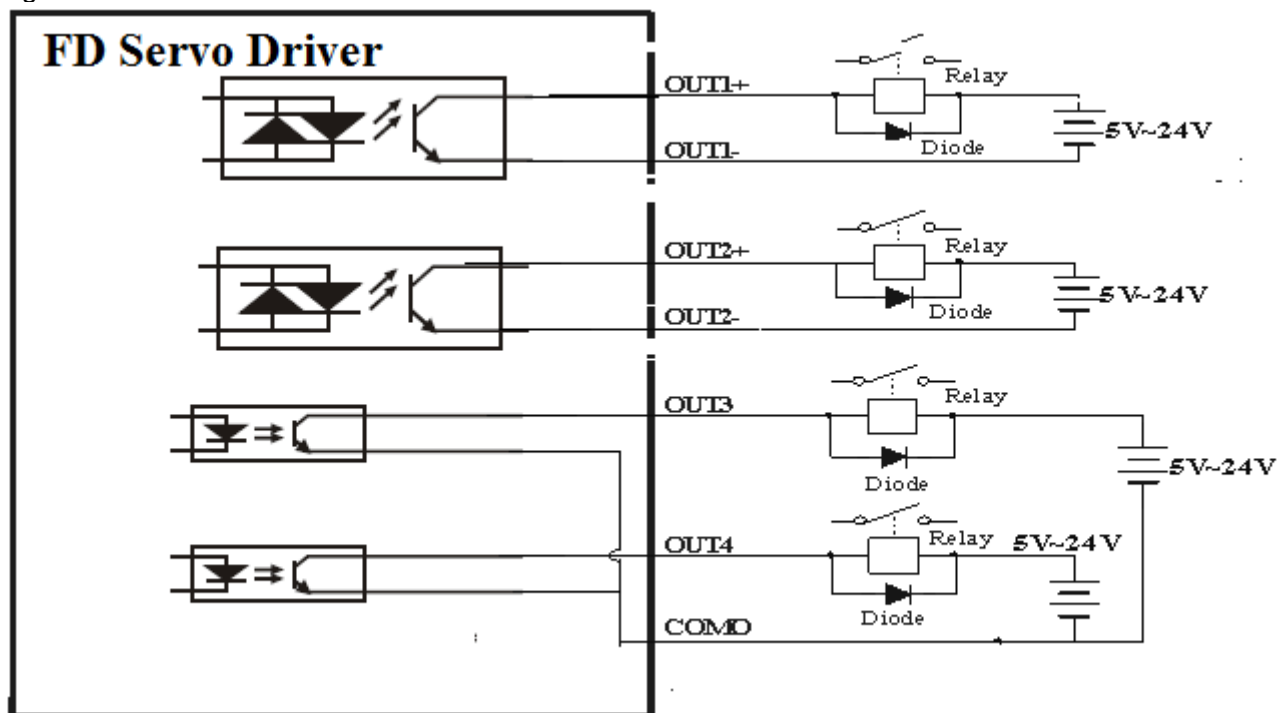

Fig.7-9 Connect a relay to the digital output port
4. To connect a relay to the digital output port, do remember to connect a diode in inverse parallel, as shown in Fig.7-9.